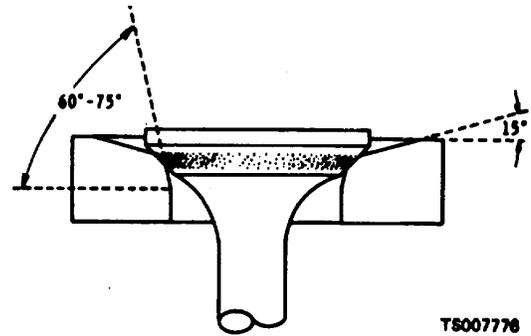
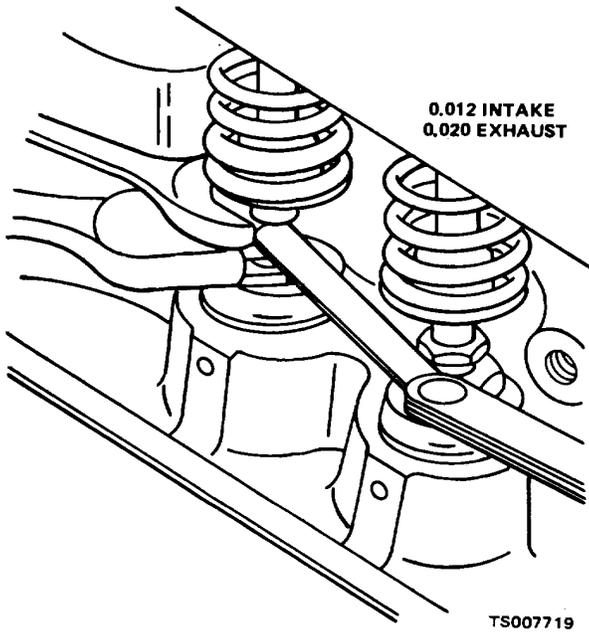

Figure 9-12. Narrowing Valve Seat.
Figure 9-12.1. Valve Adjustment
- (1) Check for proper 0.012-inch intake valve clearance by alternately passing an 0.011-inch and an 0.013-inch flat feeler gage between the head of the adjusting screw and intake valve stem (figure 9-12.1).
- (2) If an 0.011-inch feeler gage moves freely back and forth in the gap when the valve is not being lifted and an 0.013-inch feeler gage binds at
j. After the valves and seats have been refaced and reground, coat the seat lightly with Prussian blue and drop the valve into place oscillating it slightly to transfer the blue pattern to the valve face. This should show a contact width of 1/16 to 3/32 inch, and should fall well within the width of the valve face, leaving at least 1/64 inch on either side of the contact area. If the contact area is greater than 3/32 inch, narrow the contact area by grinding the outside diameter of the seat with a 15° stone or by grinding the inside diameter of the seat with a 60° or 76° stone (fig. 9-12). After the seat area is corrected, touch the seat lightly with the original grinding stone to remove the burred or feathered edge.